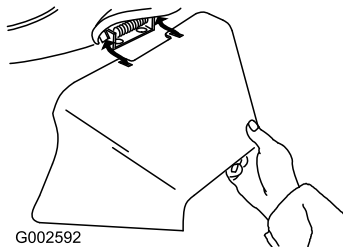

Figure 31
3. Install the side-discharge chute and close the door onto the chute (Figure 31).